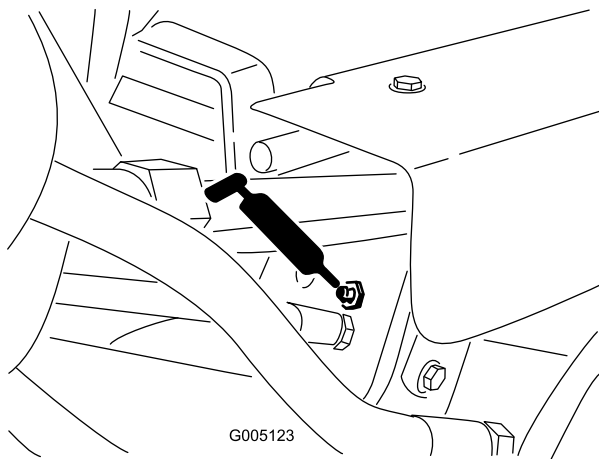

Figure 43
- Lift cylinders (3) (Figure 43)